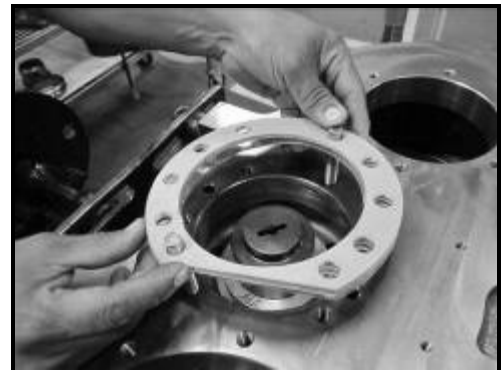

Figure 74
8. Place the bearing cup into its bore. Install the rear cap with the original shim pack. See **Figure 74**.